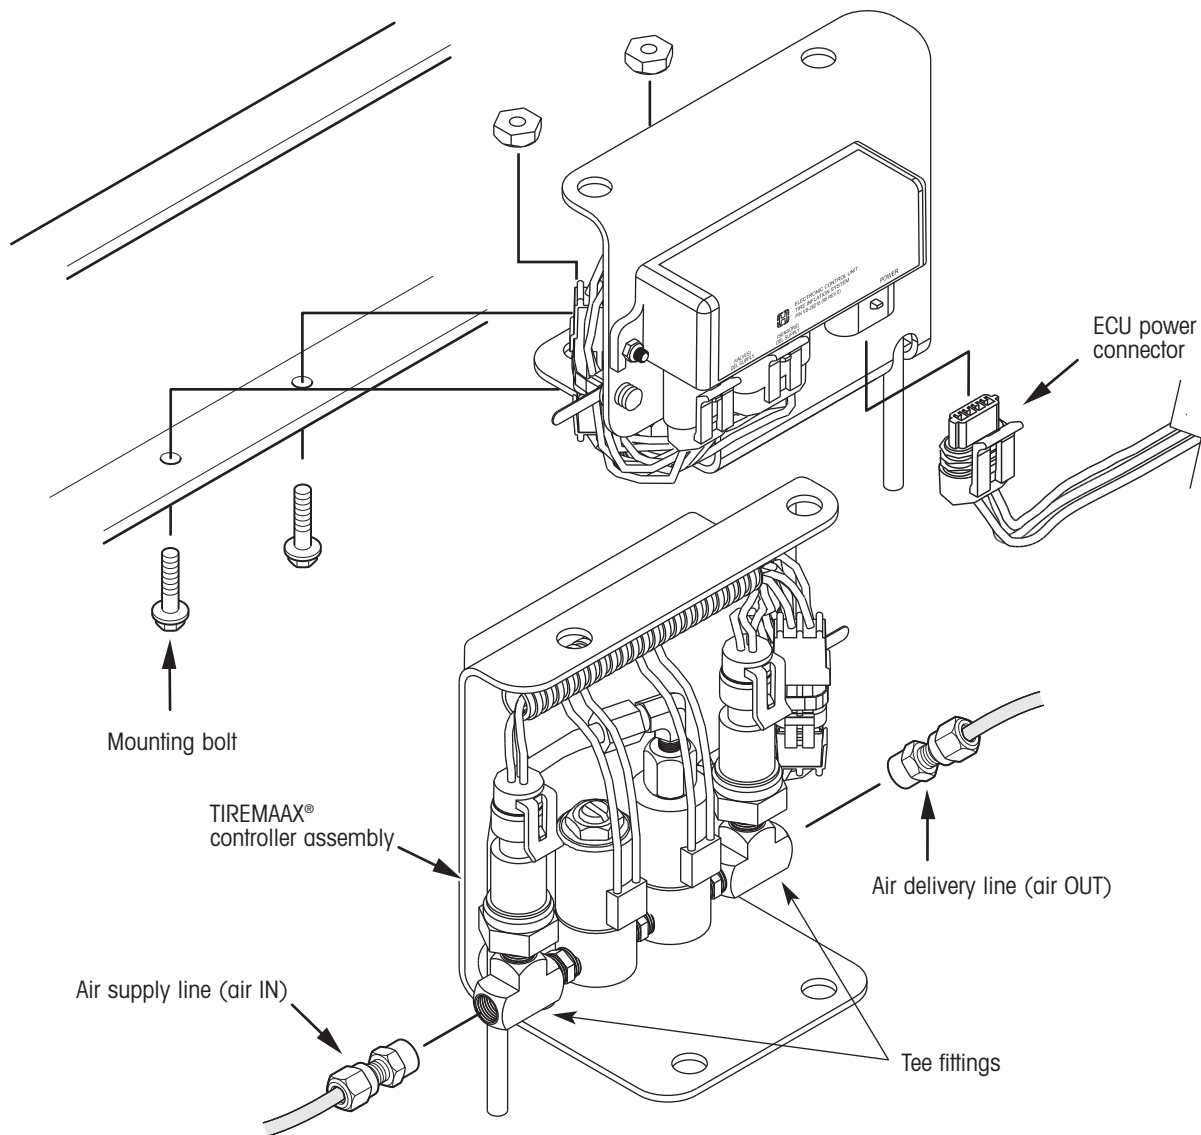

Figure 3. Removing an existing TIREMAAX controller assembly
2. Disconnect the ECU power connector (figure 3).
7. Connect the air IN and air OUT lines to the appropriate ports (see figure 3).